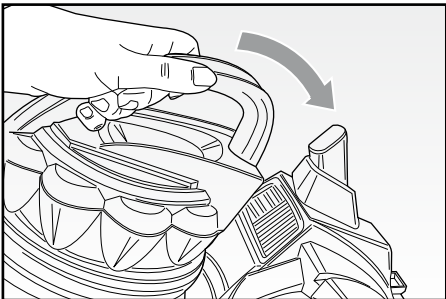

Fig. 11
- Reassemble the container (A) before proceeding with a new use.
- Insert the complete filter into the container (A) and lock it counter-clockwise.
- Now refit the whole dust container (A) onto the appliance body, pressing gently until it clicks into place (Fig. 11).